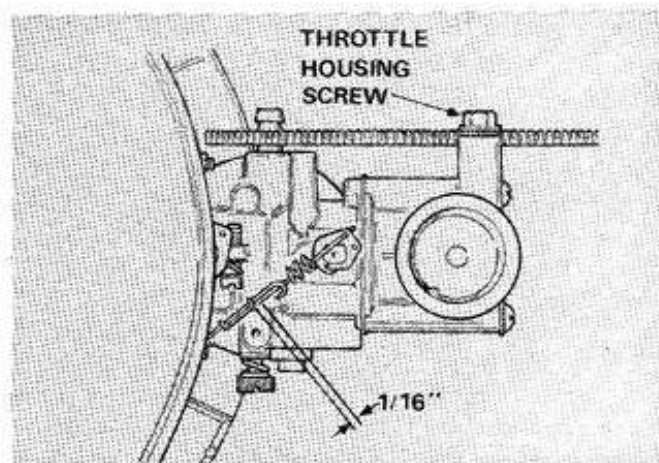

Figure 115. Choke Adjustment.
- b. Check the hook in the choke link to be certain it is in contact or no more than a maximum of 1/16" away from the first loop in the choke spring. (See Figure 115.)
- c. If the choke is partially on the loop or if there is more than 1/16 inch clearance between the hook and loop, loosen the screw holding the throttle wire housing. (See Figure 115.)